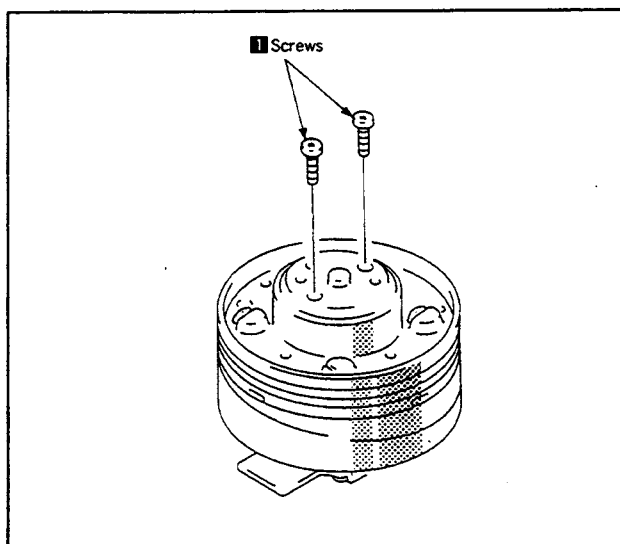

Fig. 29
- 1) Remove the two screws **1** (Fig. 29).
- 3) Remove the jig **6** and push down the rotary upper drum **5** gently by hand. If it does not go all the way down, secure it temporarily by tightening the two screws **1** alternately (Fig.29).